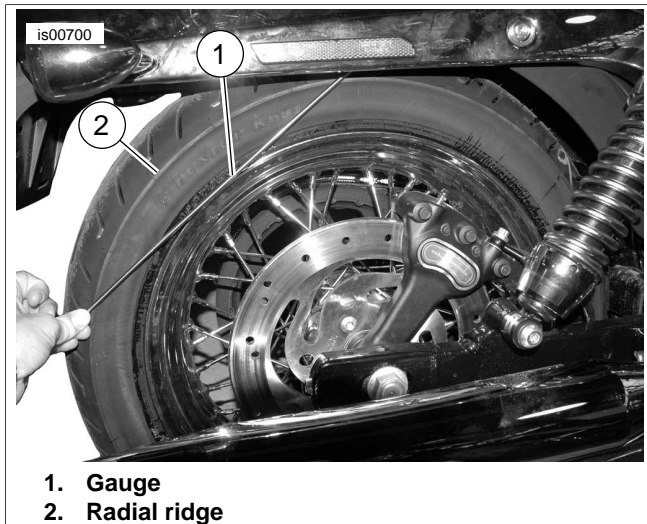

Figure 7. Gauge Clearance
4. See Figure 7. Lay gauge across the tire's radial ridge (2) and check that the gauge (1) can pass through the fender without touching (See Figure 6) any of the hardware or brackets in the gauge clearance area (8).
5. **If gauge passes gauge clearance area (8)**, proceed to the Return Motorcycle to Service section below.